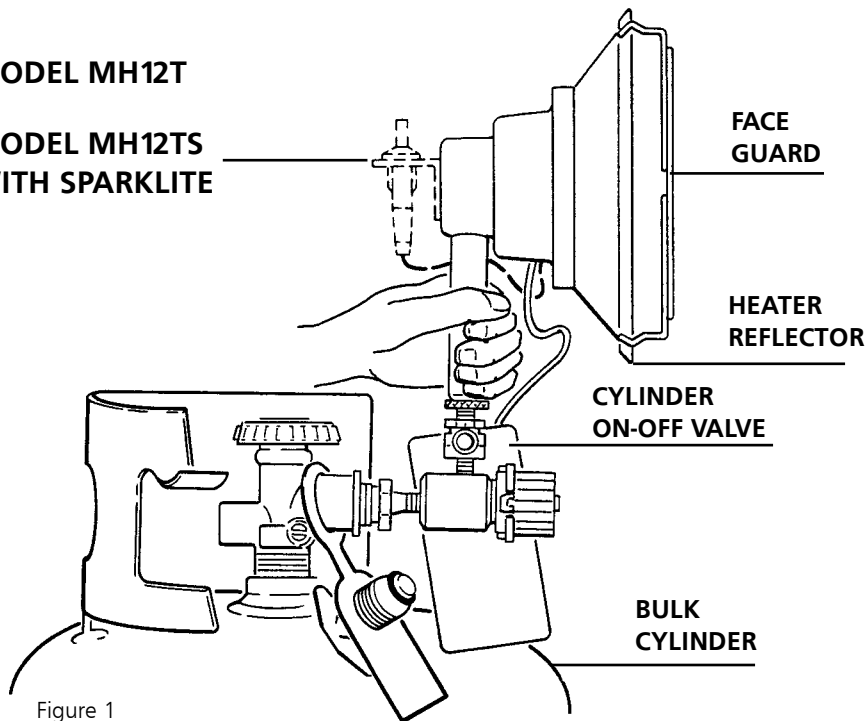

Figure 1
- 2.2 Hold heater vertically in one hand (see Fig. 1) and with the other hand carefully turn POL nut counterclockwise into bulk tank on-off valve, finger tight.